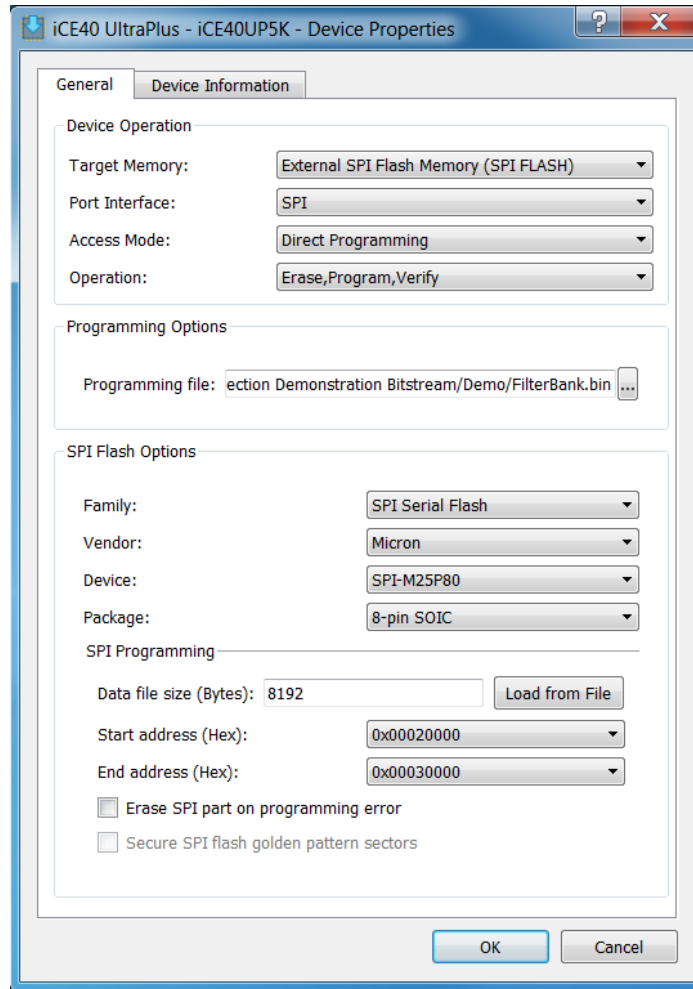

Figure 4.3. Filter Bank Coefficient File Settings
9. To program the filter bank coefficient file, select the options below as shown in Figure 4.3.
11. To program the binary firmware file, select the options below as shown in Figure 4.3.